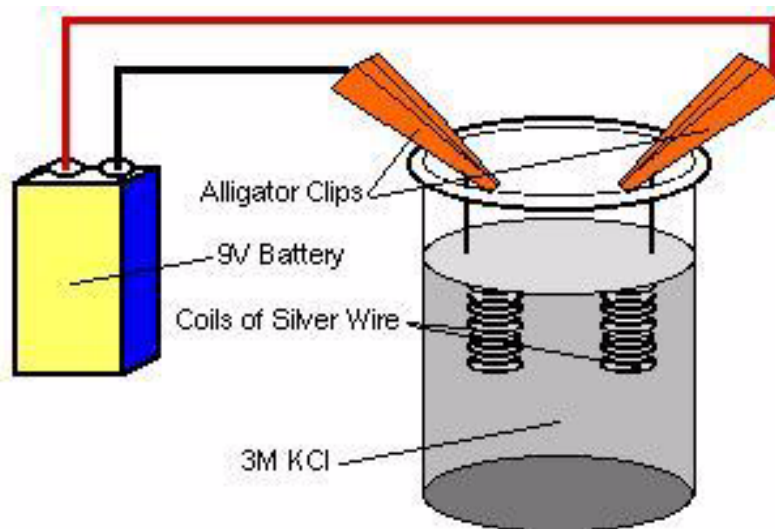

Figure A-2: Setup used to chloride silver wire.
- 7 Position each alligator clip in the wax or clay on opposite sides of the rim of the beaker, so that the two wire coils are in solution (Figure A-2 on page 3). **It is important that one wire coil does not touch the other, and that the alligator clips or the lead wires of the battery connector are not in solution!**